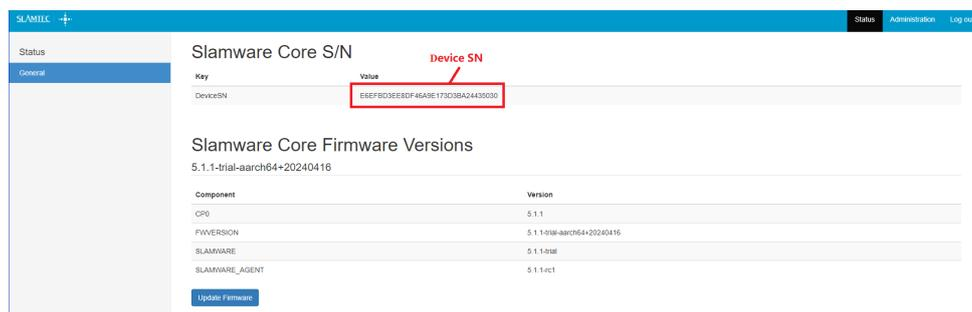

Figure 6.1: Get Device SN
3. After finish the act of procurement, users need to get the device SN(serial number) from the update service page as shown in figure 6.1. Then, send it to the sales or support engineer, and they will provide a license file (sign.txt) in return.